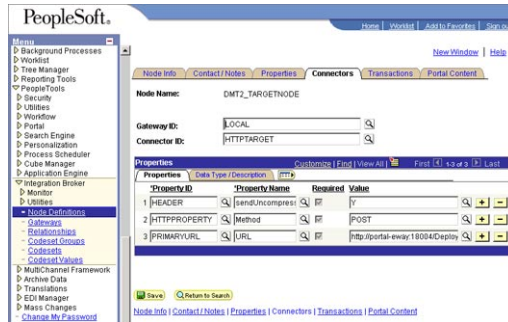

FIGURE 1–3 Configuring the Connector to Post to Enterprise Service Bus using HTTP
- 2 Select the target connector ID. From the Connectors tab, enter the values displayed in Figure 1–3.